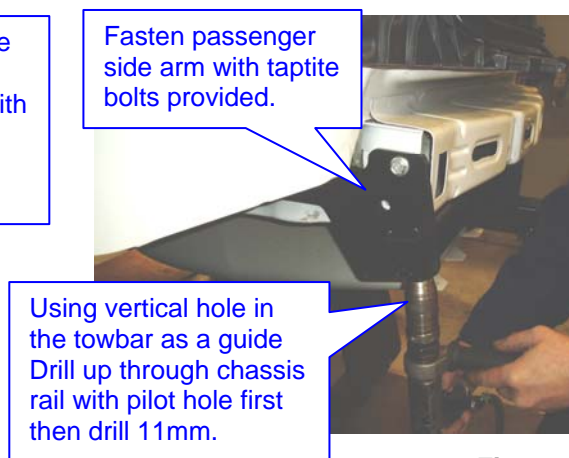

Fig 12
- Fasten passenger side horizontal mounts with taprite bolts provided see fig 12.
- Drill up through vertical mount on passenger side see fig 12.